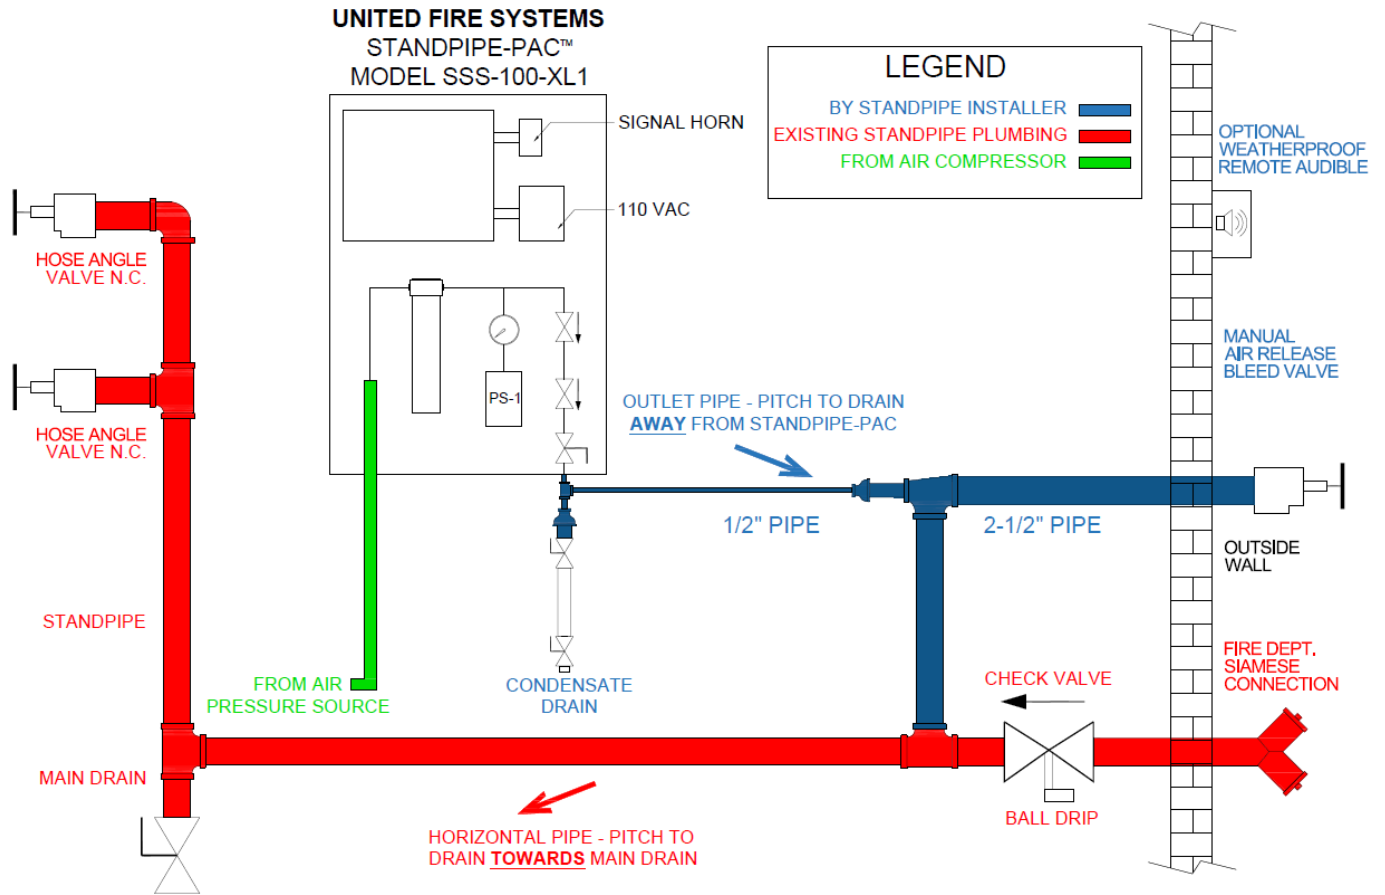

Figure 7 – **STANDPIPE-PAC™** SSS-100-XL1 Installation
3.3.2. Piping. See Figures 7 and 8. The piping in **BLUE** is to be installed by the **STANDPIPE-PAC™** system installer. Use Sch. 40 black pipe and Class 150 fittings. The tee to connect the **STANDPIPE-PAC™** shall be located after the check valve, and should be located before the drain valve. Connect 1/2" pipe to point labeled **OUTLET** on **STANDPIPE-PAC™** unit. Ensure that the standpipe is **NOT PRESSURIZED** prior to cutting in the tee at the installation location.
Dry standpipes installed with supervisory systems shall be installed per Figures 7 and 8 above. The diagram indicates several important facts:
3. Install the Auxiliary Condensate Drain Device where shown on Figures 7 and 8, per 3.3.4.
- c. The device **MUST** be installed vertically – see Figures 7 and 8.
3. See Figures 7 and 8. Attach a ½ inch close pipe nipple and the bull of a ½ inch pipe tee to device inlet. (Valve 1)
5. See Figures 7 and 8. Connect ½ inch pipe to the remaining run of the tee attached to the device and the inlet to the dry standpipe. Pitch the pipe to drain away from the device.